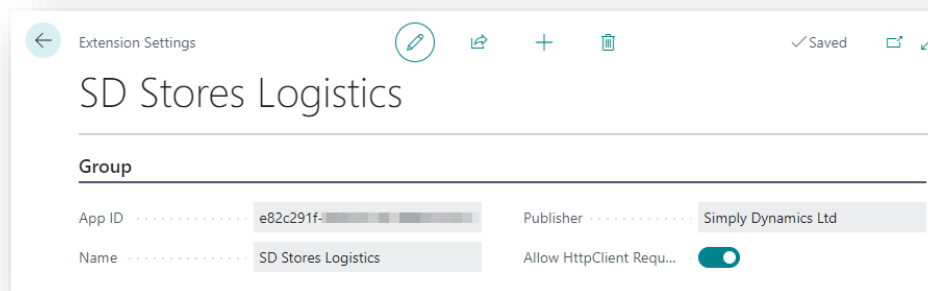

Figure 4-4
4. Choose to allow the **Allow HttpClient Requests** option (Figure 4-4).